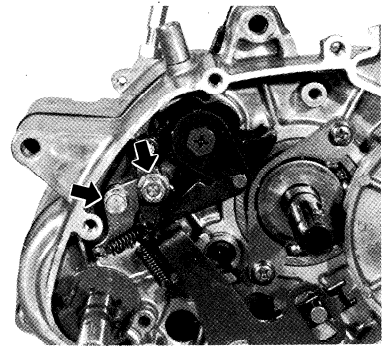

Fig. 5-4-19
19. Remove the gear shifting cam stopper by loosening the gear shifting cam stopper pivot by loosening the gear shifting cam stopper pivot nut with a 10 mm wrench. (Fig. 5-4-19)